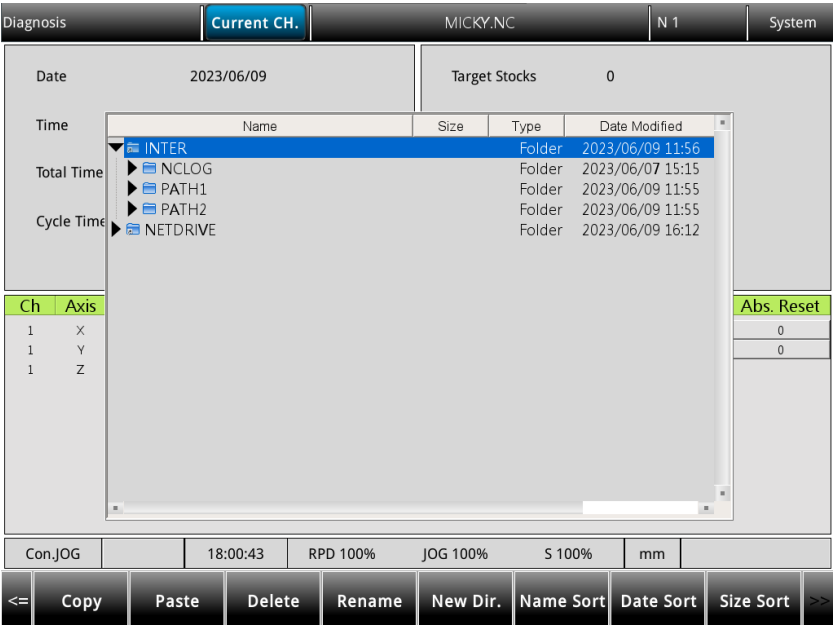

Figure 3.6.8.1
- (1) Press **DGN** to enter the DGN screen.
- (2) Press **Import** to display the file manager (FILE) window as shown in Figure 3.6.8.1. Press  and , select the directory for importing, and press **ENTER** to read the files in the folder.